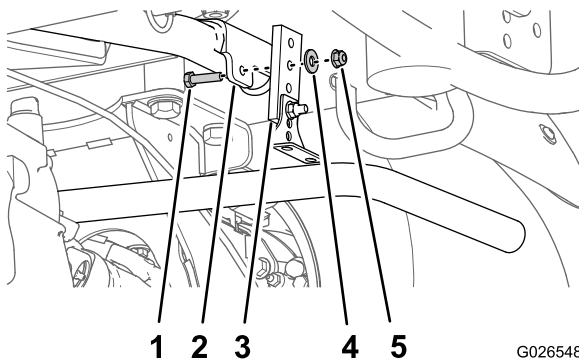

Figure 3
- At the lug for the mounting plate, remove the bolt, nut, and washer that secure the exhaust hanger to the lug, and remove the exhaust hanger (Figure 3).